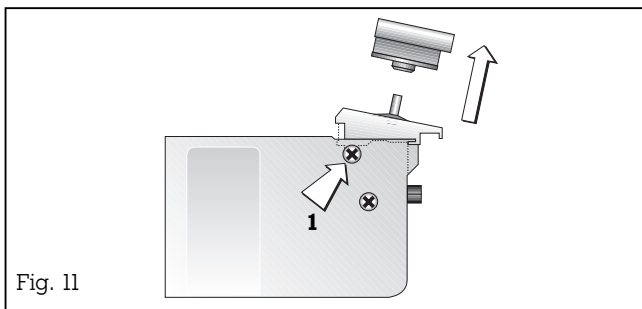

Fig. 11
- Pull off the control knob. After undoing the securing screws **(1)** on the left and right (Fig. 11), you can remove the control panel by lifting **(2)** and pushing **(3)** it out of the latch (Fig. 12).